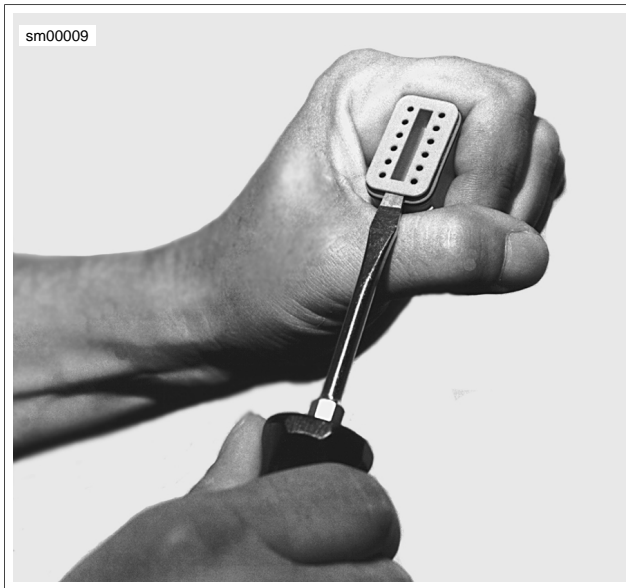

Figure A-18. Deutsch Connector: Remove Secondary Locking Wedge
- See Figure A-18. Insert a small screwdriver between the socket housing and locking wedge in-line with the groove (in-line with the pin holes if the groove is absent). Turn the screwdriver 90 degrees to pop the wedge up and remove the secondary locking wedge.